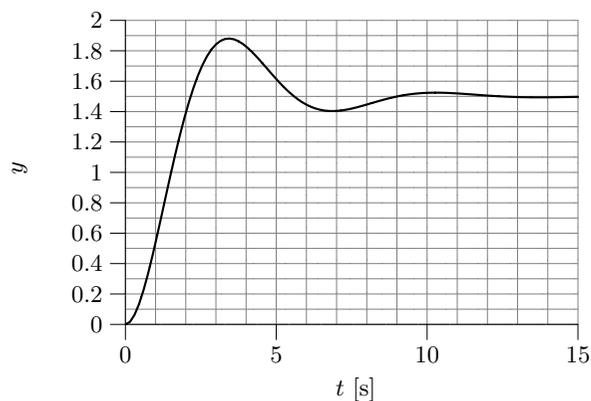

Figure 2.9a
2.9 Figure 2.9a shows the step response of a system  $Y(s) = G(s)U(s)$ . The input step has amplitude 1. Use the figure and determine